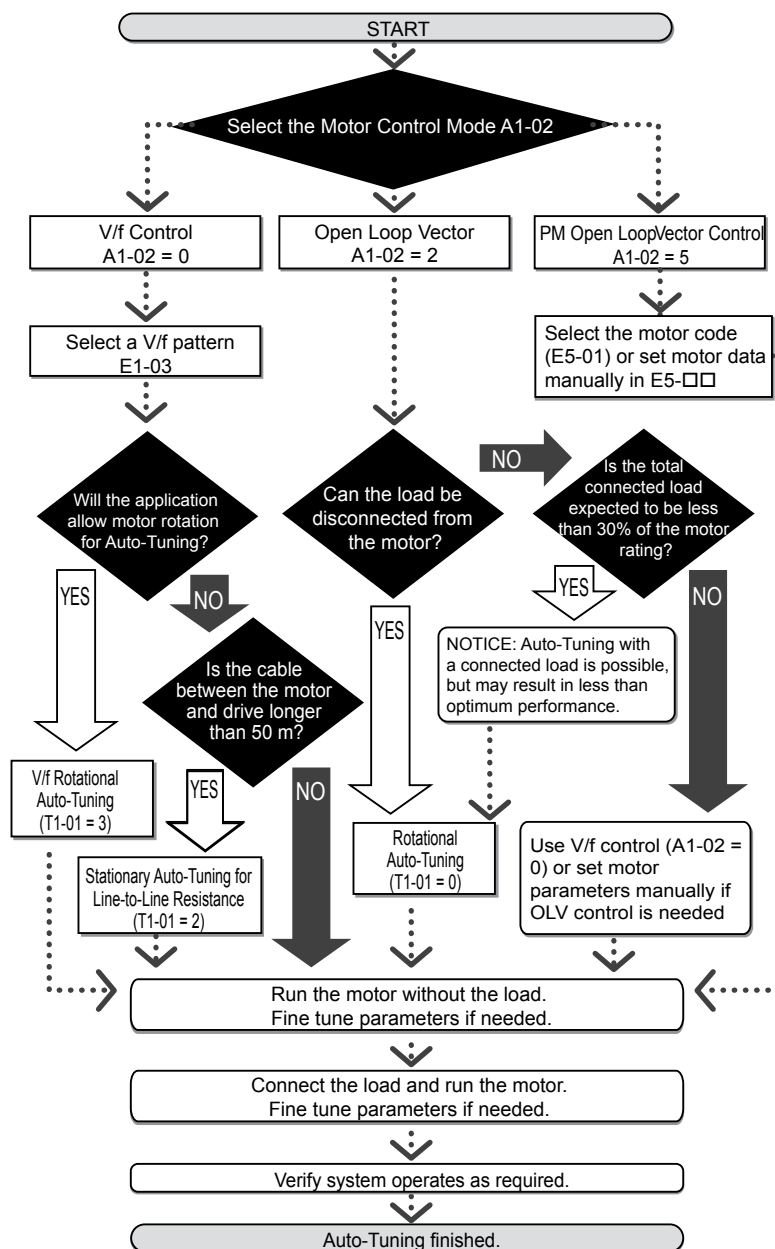

Figure 4.13 Auto-Tuning Selection
2. Determine which type of Auto-Tuning best fits the application requirements following Figure 4.13.